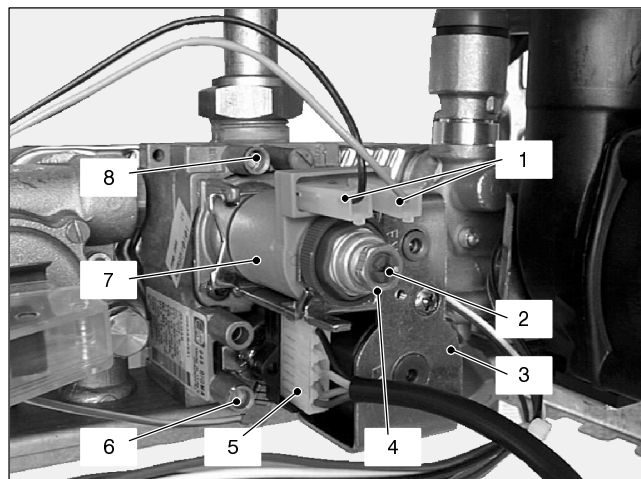

Fig. 45
### 12.2 Nomenclature of the parts (Fig. 45)
- 2 Open the gas valve inlet pressure test point (6 in Fig. 45) at the valve input, connect a suitable pressure gauge and check the gas pressure of the supply network.
- 4 Open the gas valve outlet pressure test point (8 in Fig. 45) and connect the gauge;
- 7 Rotate the maximum gas pressure adjustment (4 in Fig. 45) until you obtain the required pressure (by rotating clockwise the pressure increases).
- 8 Disconnect one of the two connectors (1 in Fig. 45) or, alternatively, remove the service panel as explained in the section 2.3 of this manual and set the dip–switch selector 1 (see section 10.5) to the OFF position.
- 9 Rotate the minimum gas pressure adjustment (2 in Fig. 45) until you obtain the required pressure (by rotating clockwise the pressure increases).